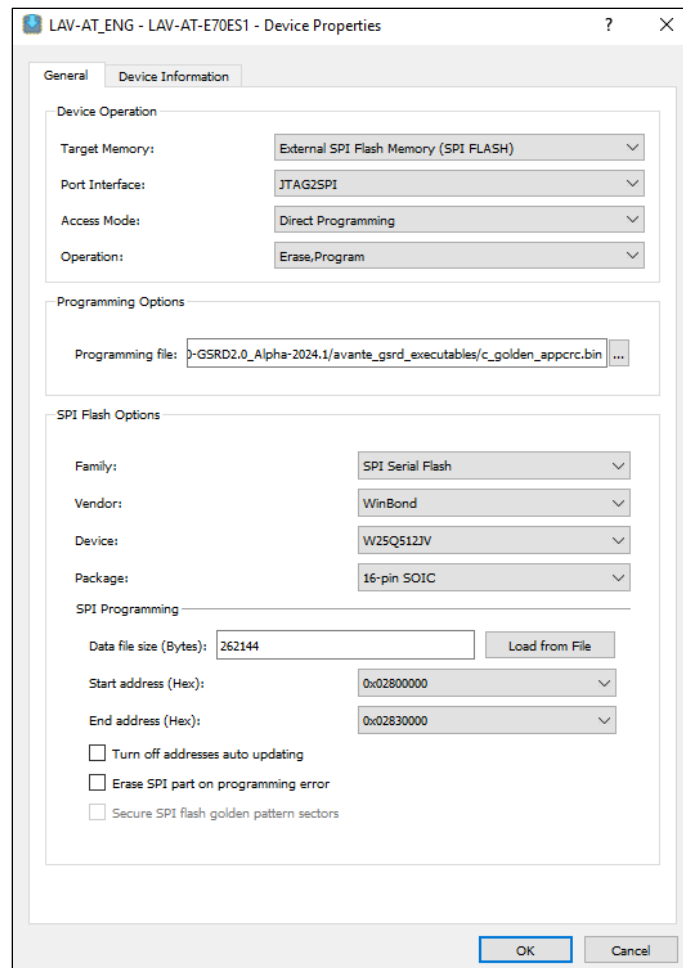

Figure 7.37. Device Properties for Programming Golden App Binary with CRC
5. To program the **c_golden_appcrc.bin** software file into the SPI Flash, Follow the settings as shown in Figure 7.37.